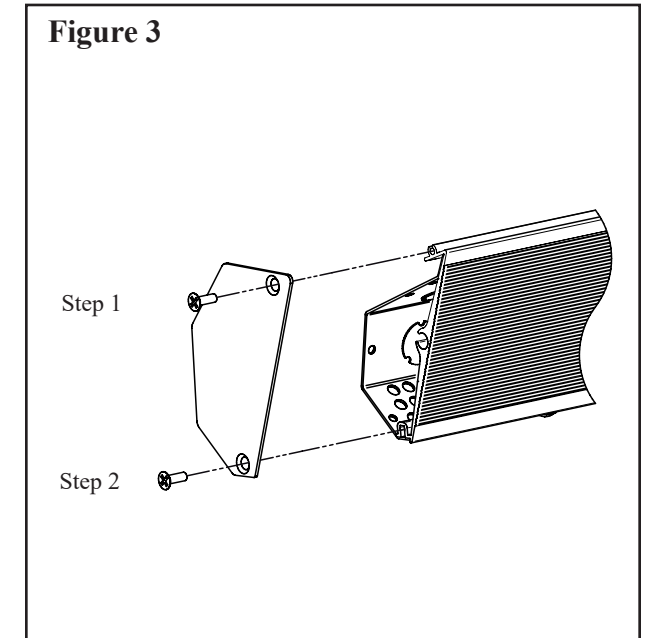

Figure 3
8. Install end caps. See Fig. 3.